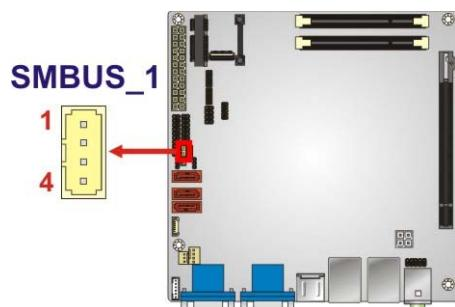

Figure 3-21: SMBus Connector Location
**CN Location:** See Figure 3-21